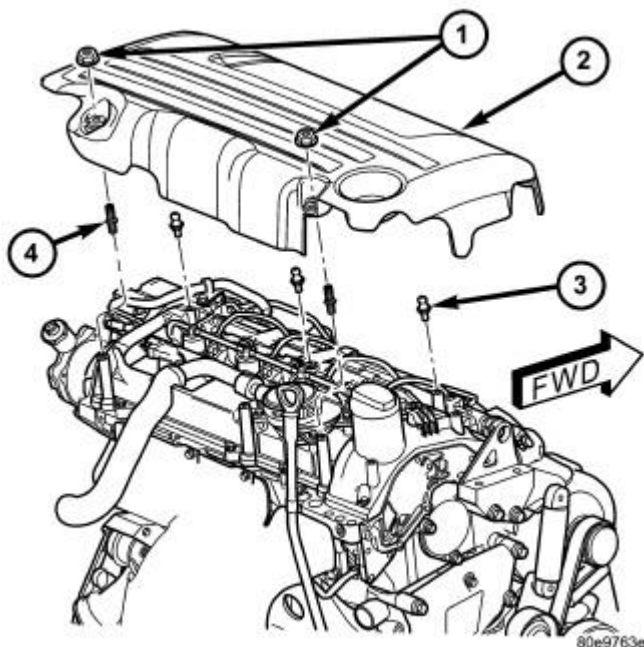

Fig. 18: Engine Cover Mounts
1. Align engine cover (2) with mounting studs. See **Fig. 18** .
2. Firmly press cover onto mounting studs (4).
3. Install retaining nuts (1) at rear of engine cover.